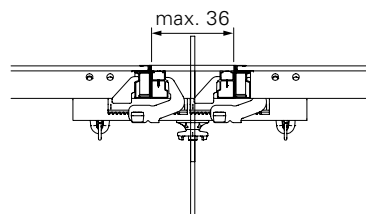

Fig. A11.03b
Anchoring is to take place so that the anchor forces are transferred in the middle through the Compensation Waler TAR 85 (23) to the adjacent panel. (Fig. A11.03b)